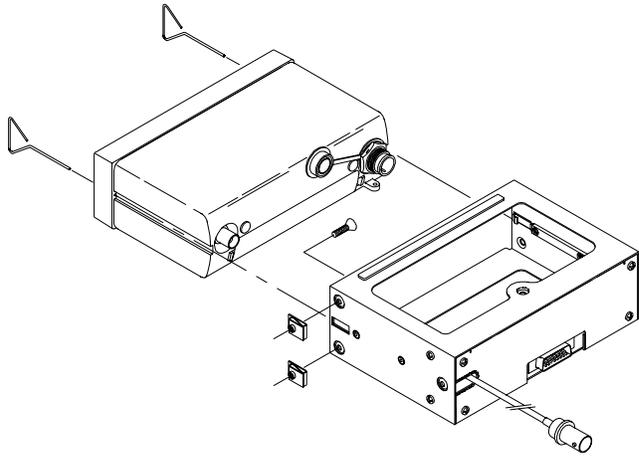

FIGURE 3-4 AVIATION RACK INSTALLATION
B. Install the rack in the aircraft panel using four #6-32 countersunk screws and four self-locking nuts. The screws are inserted from the inside through the holes in the sides of the rack (see Figure 3-4).